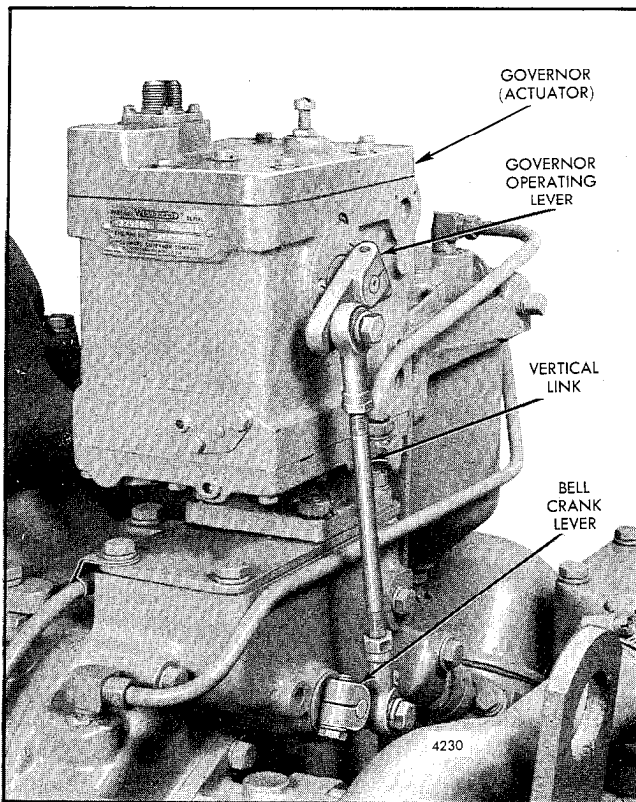

Fig. 1 - Governor Mounted on Engine
The Woodward EG-B2C series governor (Fig. 1) is of the electric type. It can be operated as an isochronous (zero speed droop) governor or as a speed droop governor. As an isochronous governor installed on an engine operating alone, it will maintain a constant speed for all loads within the capacity of the engine, except momentarily at the time a load change occurs. Paralleled with other EG-governors, it will render proportional load division with isochronous control. Paralleled with dissimilar governors or with an infinite bus (i.e., commercial power), the EG-B2C governor can be operated as a conventional speed droop governor, and the load carried by the engine will be a function of the governor speed setting and speed droop setting.
3. Remove the vertical link assembly (Fig. 1) from the governor operating lever and the bell crank lever.